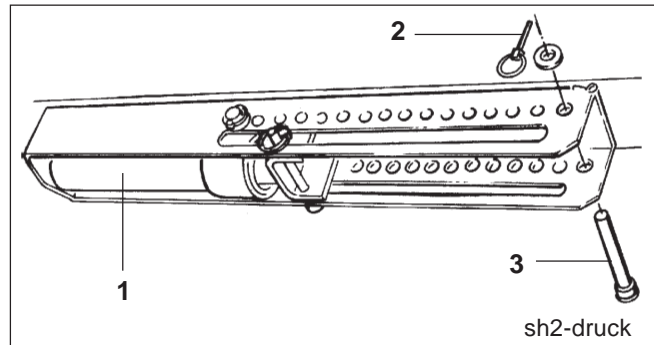

Fig. 23.6
- Relieve the hydraulic ram (Fig. 23.6/1) from pressure.
- Insert the pin (Fig. 23.6/3) in a hole of the quadrant plate and secure with a clip pin (Fig. 23.6/2).